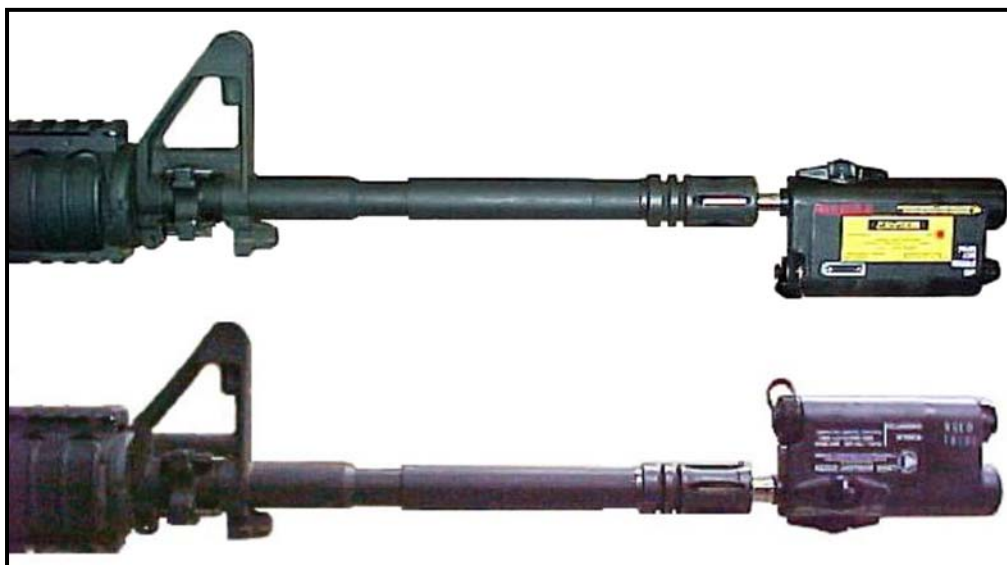

Figure 8-3. Borelight in the START POINT position.
(5) Rotate the borelight until the battery compartment is facing upward and the adjusters are on the bottom (Figure 8-3). This position of the borelight, and where the visible laser is pointing, is identified as the start point.